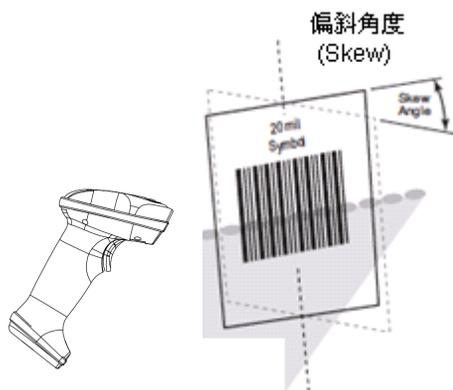

Fig. 1-13
- ◇ Skew: $\pm 60^\circ$, 0° Roll and 0° Pitch (Fig. 1-13)